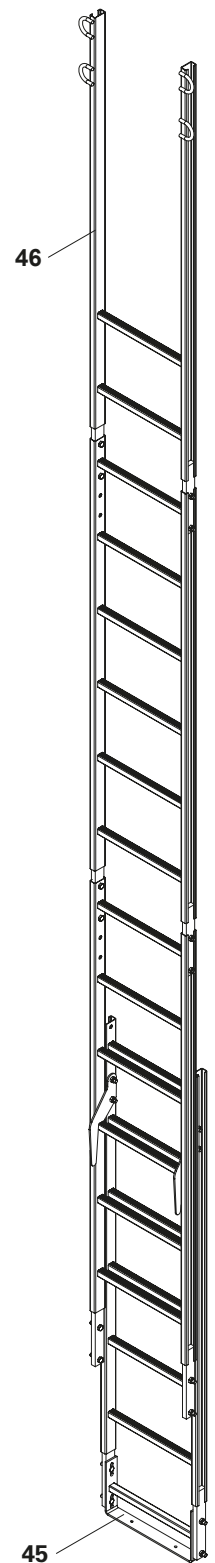

Fig. A1.42
- Attach the two ladder hooks of the Ladder 180/6 (44b) to be suspended on the rungs of the bottom ladder (44a) and pull downwards. (Fig. A1.42)
The rungs of both ladders must be positioned at the same height. (Fig. A1.42)